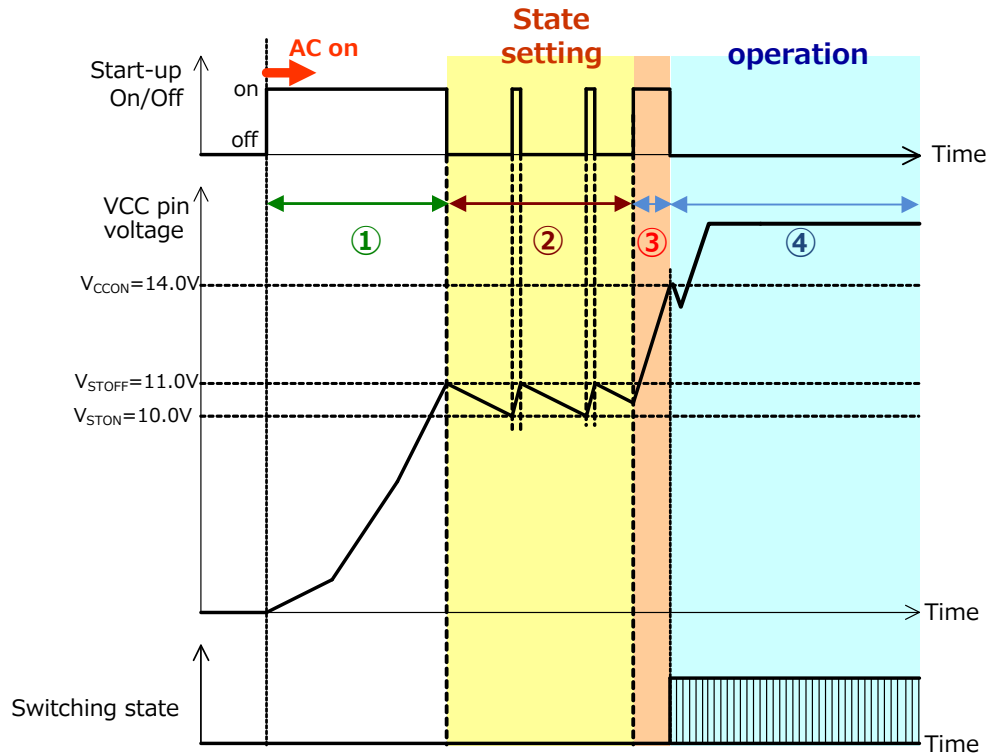

Fig. 30 Start up sequence
**(19) Start up sequence (in case of standby operation by external signal)**
Fig. 30 shows the timing chart at start up. Period of ① to ④ in the chart are described below.
- ① The AC input is turned on and start up circuit charges VCC pin voltage.
- ② When VCC pin voltage reaches start-up circuit stop voltage  $V_{STOFF}$  of 11V, the IC starts state setting (48ms max.). During state setting, VCC pin voltage is maintained in the range of 10V and 11V by start up circuit.
- ③ After state setting, start up circuit supplies current to VCC pin again and increases VCC pin voltage to start operation voltage of 14V.
- ④ When VCC pin voltage reaches to start operation voltage, IC starts switching operation and auxiliary winding voltage of transformer increases. Then, VCC pin voltage is supplied from auxiliary winding and IC starts normal operation.